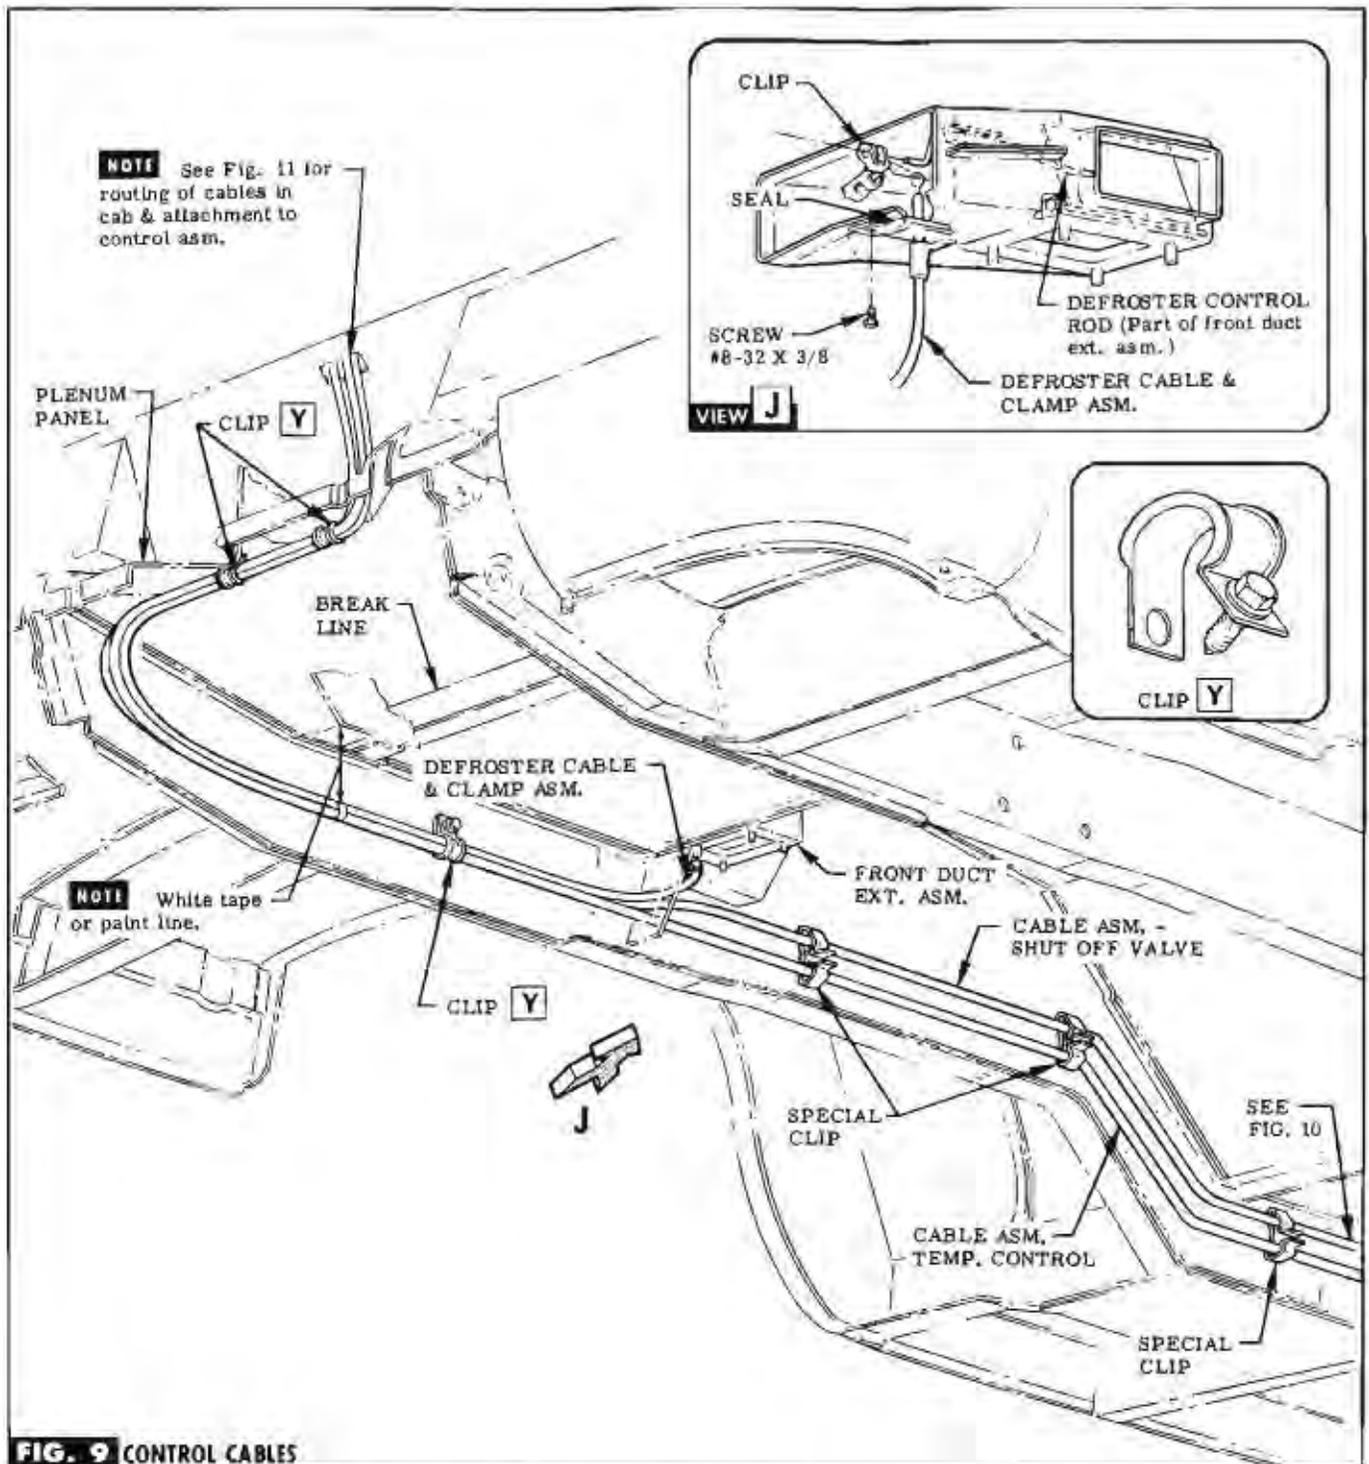

FIG. 9 CONTROL CABLES
STEP 34 ALIGN WHITE TAPE OR PAINT MARKS ON CABLES DIRECTLY BELOW FLOOR TO TOE PANEL BREAK LINE BEFORE CLIPPING TO UNDERBODY. ROUTE CABLES ALONG RIGHT SIDE RAIL THRU CLIPS (IN BAG B) ON PLENUM PANEL & THRU OPENING IN TOE PANEL. SEE FIG. 9.
STEP 38 CONTINUE TO ROUTE CABLES REARWARD THRU CLIPS (IN BAG B) ON RIGHT SIDE RAIL. SEE FIG. 9.
NOTE For front installation of cables in vehicle, See Fig. 9.